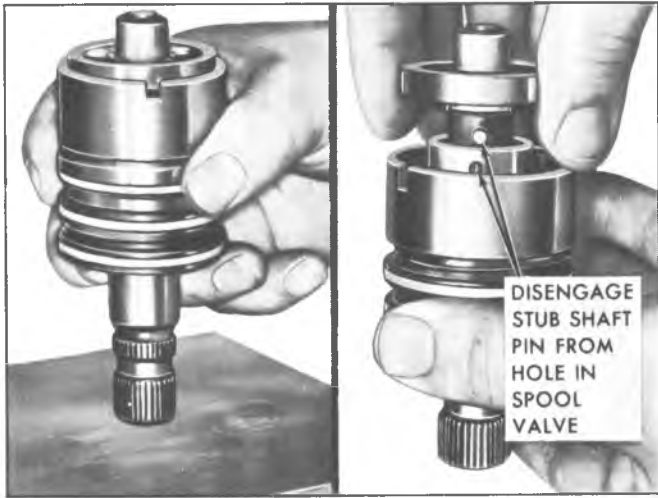

Fig. 43--Removing Stub Shaft Assembly
lightly tap the stub shaft against the bench until the shaft cap is free from the valve body (fig. 43).
- c. Carefully disengage the shaft pin from the valve spool and remove the shaft assembly (fig. 43).